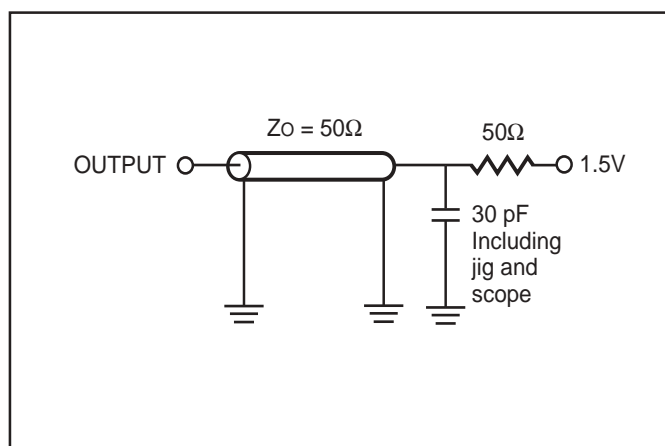

Figure 1
Output Load	See Figures 1 and 2
1. Test conditions assume signal transition times of 3 ns or less, timing reference levels of 1.5V, input pulse levels of 0 to 3.0V and output loading specified in Figure 1.